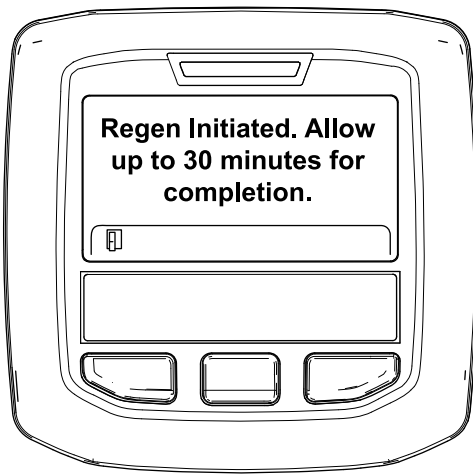

Figure 39
- If the regeneration is allowed, the "Regen Initiated. Allow up to 30 minutes for completion" message displays in the InfoCenter, wait for the machine to complete the parked regeneration process (Figure 39).